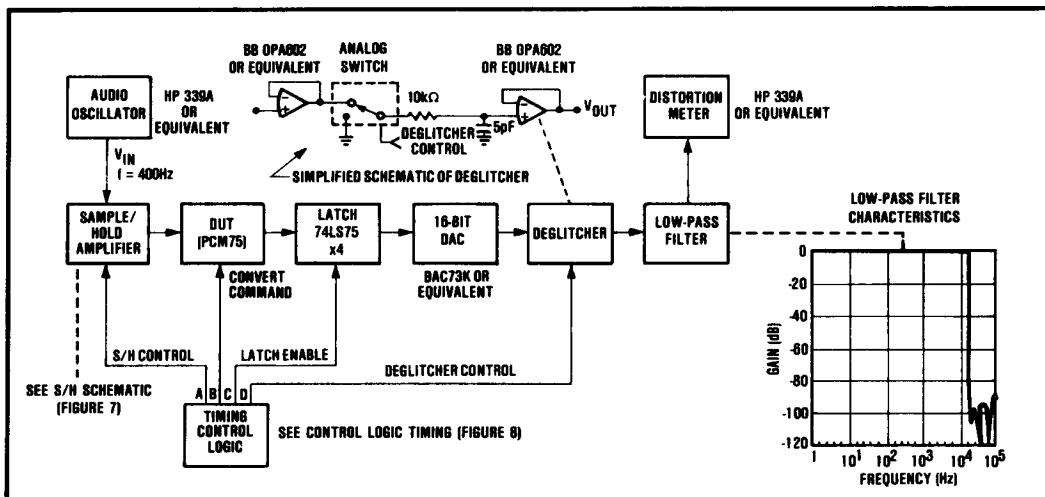

FIGURE 6. Block Diagram of Distortion Test Circuit.
NOTES: (1) The measurement of Total Harmonic Distortion + Noise (THD+N) and Dynamic Range is highly dependent on the characteristics of the sample/hold amplifier, the digital-to-analog converter, the deglitcher, and the low-pass filter. To accurately measure THD+N and Dynamic Range, the accuracy of each device should be better than 16-bit accuracy. A block diagram showing the measurement technique Burr-Brown uses is shown in Figure 6. (2) DTL/TTL compatible, i.e., Logic "0" = 0.8V max. Logic "1" = 2.0V min for inputs. For digital outputs Logic "0" = +0.4V max. Logic "1" = 2.4V min. (3) Adjustable to zero. (see "Optional External Gain and Offset Adjustment.") (4) FSR means Full Scale Range. For example, unit connected for $\pm 10V$ range has 20V FSR. (5) Conversion time may be shortened with "Short Cycle" set for lower resolution and with use of Clock Rate Control. See "Additional Optional Connections" section. The Clock Rate Control (pin 23) should be connected to Digital Common for specified max conversion time. Short Cycle (pin 32) should be left open for 16-bit resolution or connected to the n + 1 digital output for n-bit resolution. For example, connect Short Cycle to bit 15 (pin 15) for 14-bit resolution. (6) See Table I. CSB—Complementary Straight Binary, COB—Complementary Offset Binary, CTC—Complementary Two's Complement. (7) CTC coding obtained by inverting MSB (pin 1). (8) Adjustable with Clock Rate Control from approximately 933kHz to 1.4MHz. See Figures 14 and 15 and Table III.
The Total Harmonic Distortion (THD) is defined as the ratio of the square root of the sum of the squares of the value of the rms harmonics to the value of the rms fundamental and is expressed in percent or dB. A block diagram of the test circuit used to measure the THD of the PCM75 is shown in Figure 6 along with a timing diagram for the control logic. If we assume that the error due to the test circuit is negligible, then the rms value of the PCM75 error referred to the input can be shown to be